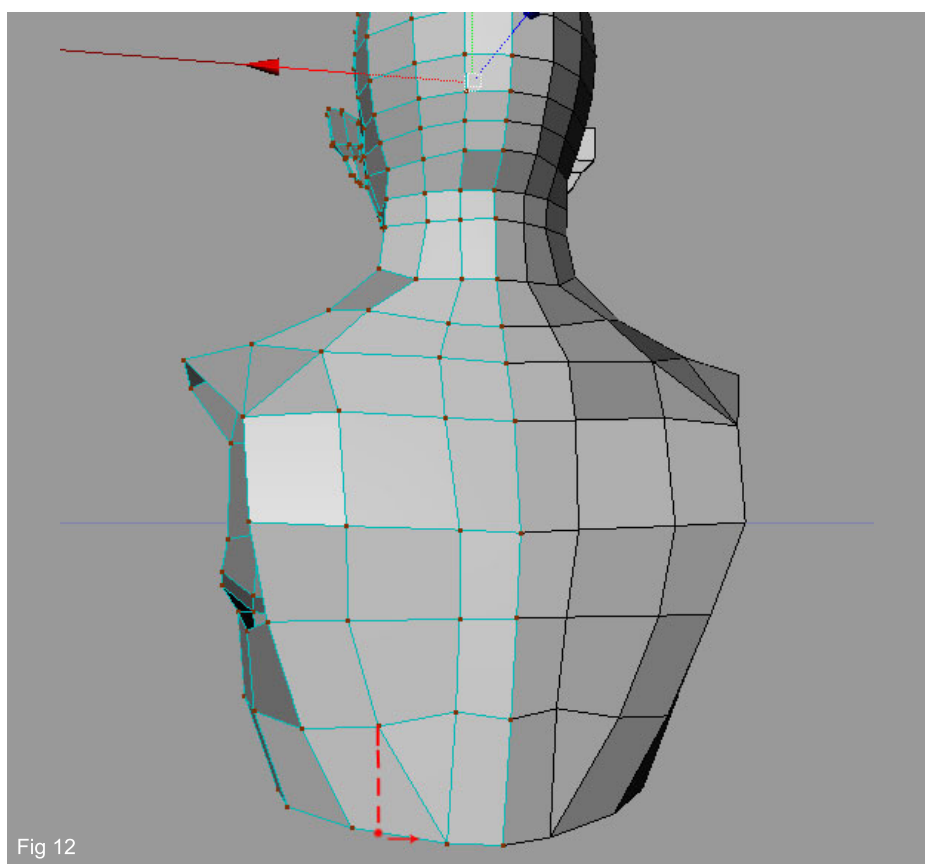

Fig 12
12. To help shape the muscle form on the back, you need to weld the vertex shown in red (Fig12) to the one to its left. This will form a triangle and follow the shape of the muscles running downwards from the shoulder blades.